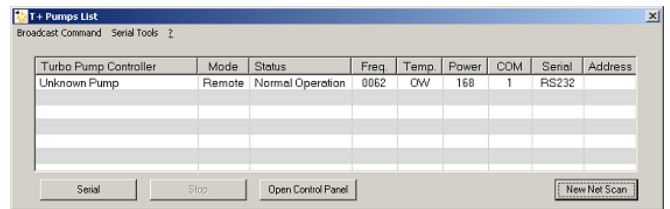

Figure 4 T+ Pumps List
2. Using a 9-pin serial cable, connect your PC to the J2 serial port on the inverter (Figure 4).
4. Start the T-Plus software and Figure 4 appears.